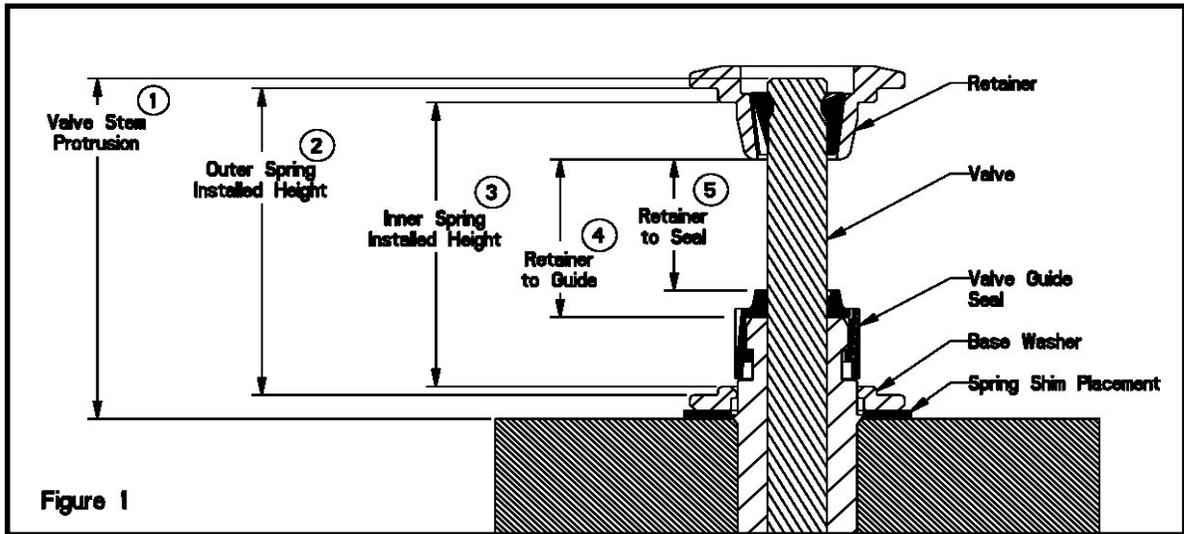

Figure 1
1. Stem Protrusion is measured from the tip of the valve stem to the cylinder head. See Figure 1.
2. Outer spring installed height is measured where the outer spring contacts the Retainer and Basewasher when assembled (See Figure 1).
3. Inner spring installed height is measured where the inner spring contacts the Retainer and Basewasher when assembled (See Figure 1).
4. Retainer-to-Guide clearance is the distance between the Valve Guide (w/o the seal) and the bottom of the Retainer, with the Valve in the closed position (See Figure 1 and Notes 3 & 4).
5. Retainer-to-Seal clearance is the distance between the Valve Stem Seal and the bottom of the Retainer, with the Valve in the closed position (See Figure 1 and Notes 3 & 4).